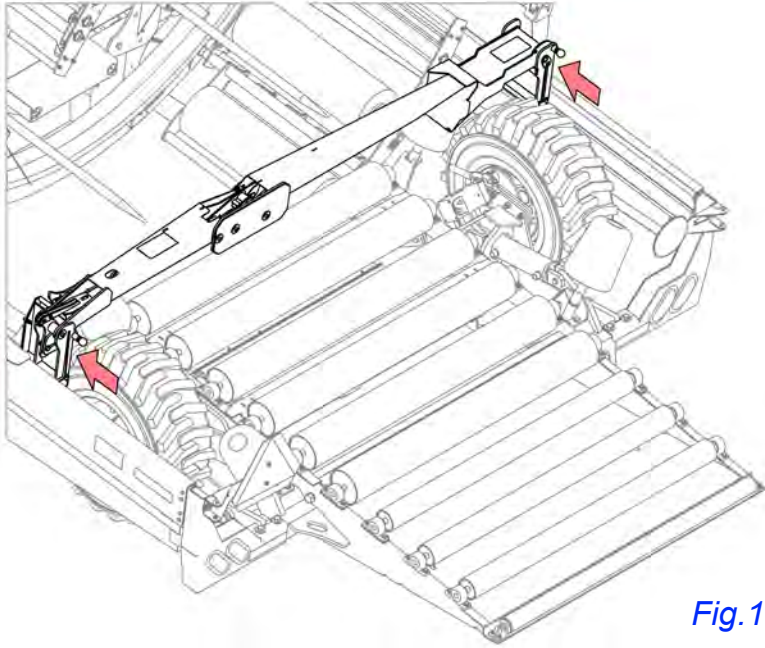

Fig.1
1. Insert right dispatch arm pocket into right ram tube. Lock with bolts and nuts. See Fig.1.